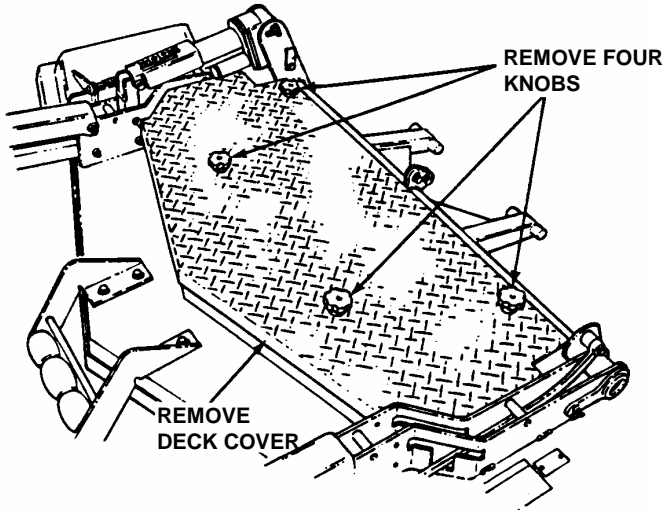

FIGURE 3.3
- Remove four knobs that secure the deck cover. See Figure 3.3.